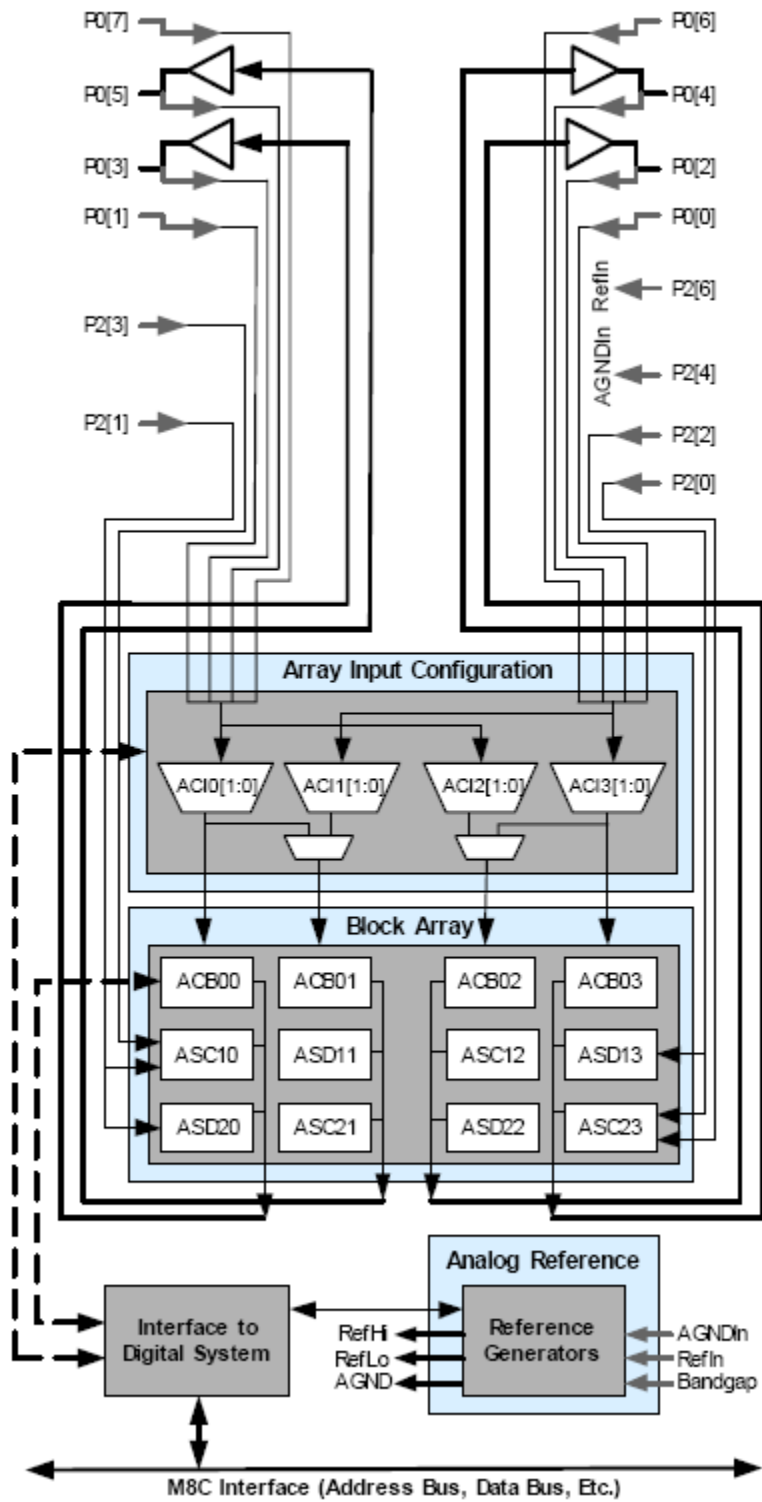

Figure 1. CY8C27X43 Analog block diagram
Two columns are provided in the pin out definitions, digital and analog. One important thing to keep in mind is the analog functional pin out that may be required for the project. The reason this is important is the analog inputs and outputs are dedicated to one or two ports in most parts. Use the analog block diagram as seen in figure 1 to decide on which pins you would like to use. Figure 1 is the analog block diagram for the CY8C27X43 series of parts. The first and easiest thing to see in the block diagram is that four pins can be used for analog output pins. The pins are P0[5], P0[4], P0[3], and P0[2]. These pins have dedicated drivers that can be enabled for outputting analog signals from the analog blocks sections. Each analog column has a dedicated buffer that can be enabled to drive an analog signal output. Look at figure 2 and the buffer amps are at the bottom, labeled buf0, buf1, buf2, and buf3. The CY8C27X43 parts have 4 columns of analog blocks. Each column has a buffer to buffer any of the three analog blocks in that column to the output pin, see figure 2 showing the analog blocks in Designer. Only one analog block output in the column can be directly connected to the output pin. Analog column 1 is output on pin P0[3], analog column 2 is output on pin P0[5], analog column 3 is output on pin P0[4], and analog column 4 is output on pin P0[2]. Because these buffers are dedicated to a specific analog column the customer should pull in the analog user blocks that he is planning to use. Connect the blocks using the chip view in Designer and make sure you can connect the block you want to the analog output pin
Analog inputs are forced to be on port 0 and port 2, see figure 1.. Port 0 odd pins connect to a 4 to 1 mux(ACI0) that can be set to input 1 of the 4 odd pins to analog column 0 analog blocks. These port 0 odd pins are also routed to another 4 to 1 mux(ACI1) that can be set to input 1 of the 4 odd pins to analog column 2 analog blocks. The same is true for the port 0 even pins. Figure 1. is very accurate and can and should be verified using designer when hooking up analog input signals. Left clicking on any of the 4 to 1 mux symbols in Designer as seen in figure 2. will show the user which port pins can be connected to the input of the mux. When multiple analog inputs need to be input to one particular block be sure that the signals can be routed to the appropriate analog 4 to 1 mux block. In Designer pulling in a 4 to 1 mux uses no analog blocks but does use whichever 4 to 1 mux that is set in the configuration window for the mux. The API for the 4 to 1 mux user module gives the user the ability to change the mux dynamically in the software. Port 2 has direct connections to switched capacitor(SC) blocks as seen in figure 2.. A generic SC user module has two inputs. If the module is placed in either the middle left or right bottom SC block as in figure 2 then direct connections can be made using either P2[3] and P2[1] if the left middle block is used or using P2[2] and P2[0] if the right bottom SC block is used. Port 2 also has additional analog input functionality on pins P2[4] and P2[6] which allows the user to input an external voltage reference and or an analog ground reference into the PSOC if desired. Different PSOC families have slightly different setups for inputting and outputting analog signals. Be sure to look closely at the analog block diagram of the part of interest, along with using the chip view in Designer to verify your pin out before going to layout for your design. If multiple signals are to be multiplexed to a single analog block the user library contains both a 4 to 1 and 8 to 1 mux user modules that should be used. Be sure and use the Designer tool to connect up these mux modules before committing to layout if the designer desires this functionality. Placing user modules and hooking them up to the outside pins of the device can be done very fast. This should be done before committing the design to layout to verify the correct connections can be made.